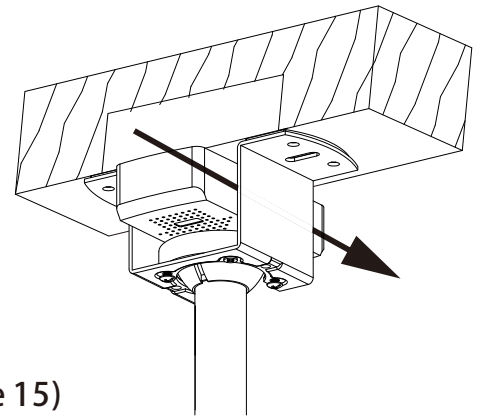

Figure 14
Step 1. (Fig. 14) Insert the receiver into the hanger bracket with the flat side of the receiver facing the ceiling.